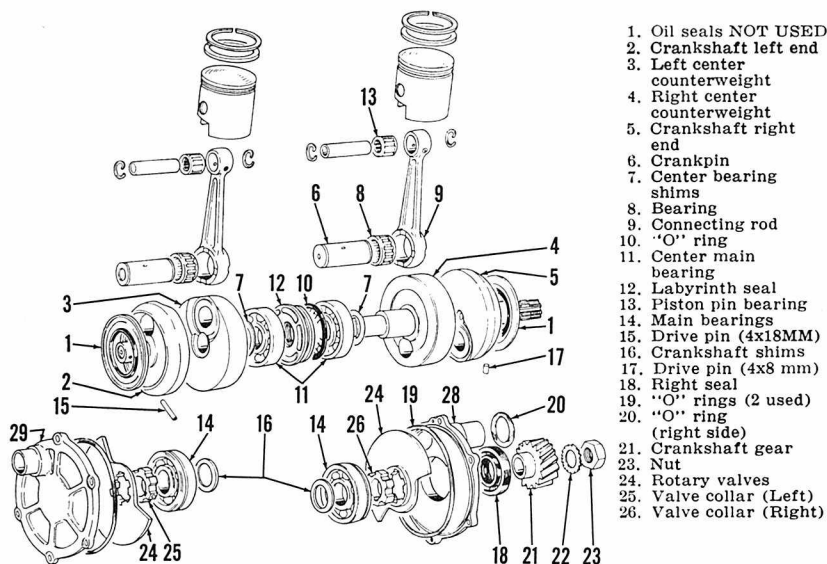

Fig. BS4-18—Exploded view of crankshaft assembly and rotary valves. Refer to Fig. BS4-23 for valve timing. Seals (1) should not be installed. Refer to text.
NOTE: Oil seals (1—Fig. BS4-18) are no longer used and should be removed if installed. Seals (1) can be cut off without removing main bearings, if carefully done.
When installing crankshaft, refer to Fig. BS4-8. Make certain that bearing dowels and retainer rings are correctly positioned. Crankshaft gear retaining nut (23—Fig. BS4-18) is left hand thread and should be tightened to 65-72 Ft.-Lbs. torque.